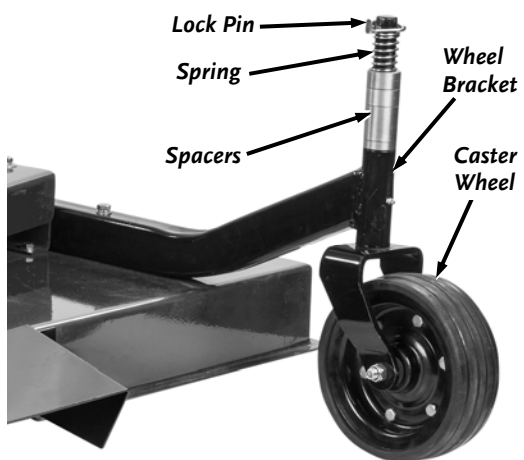

Figure 43
1. Remove the Lock Pin and remove the Caster Wheel with Spacers from the Wheel Bracket (**Figure 43**).